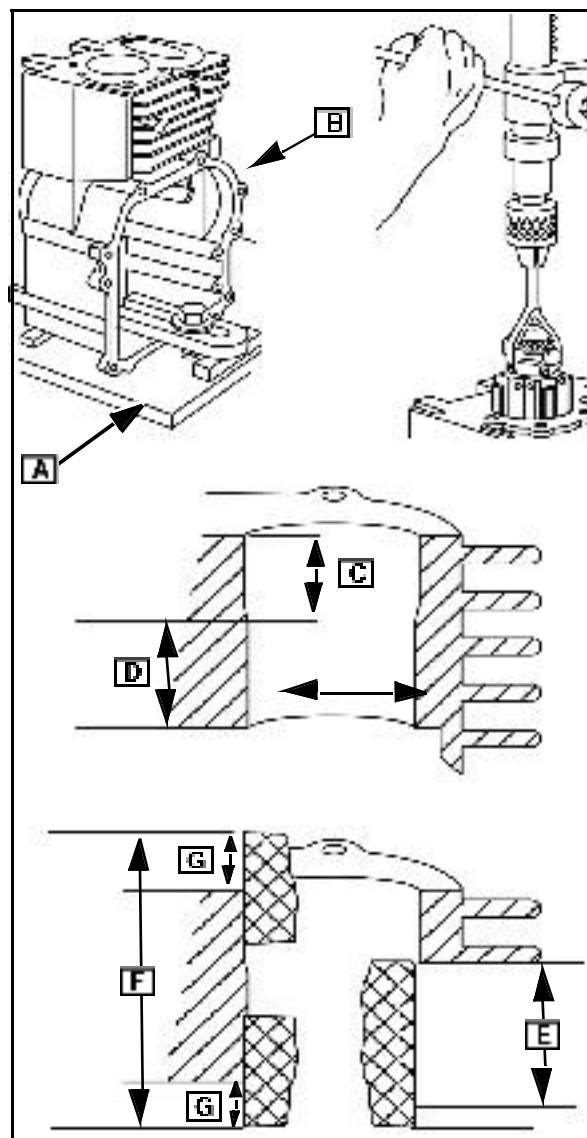

Fig. 47
- Oil the surface of the drill press table liberally. Set (do not anchor) the honing fixture/plate (A) and cylinder on drill press table. ([B] Fig. 47).
travel area, (D) use this area to guide hone to to straighten cylinder bore, Fig. 47.
10. Start the drill and, as the hone spins, move it up and down limiting the travel to the bottom of the cylinder ([E] Fig. 47).
11. As the bottom of the cylinder increases in diameter, gradually increase the length of the strokes until hone travels full length of bore and extends past the cylinder bore ends ([F] Fig. 47). Do not extend hone more than 3/4 in. to 1 in. (19.1 mm to 25.4 mm) at either end of cylinder bore ([G] Fig. 47).